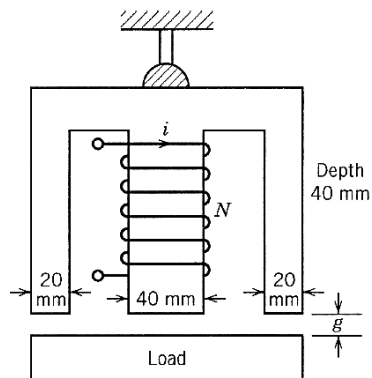

FIGURE P3.5
3.5 An electromagnet lift system is shown in Fig. P3.5. The coil has 2500 turns. The flux density in the air gap is 1.25 T. Assume that the core material is ideal.